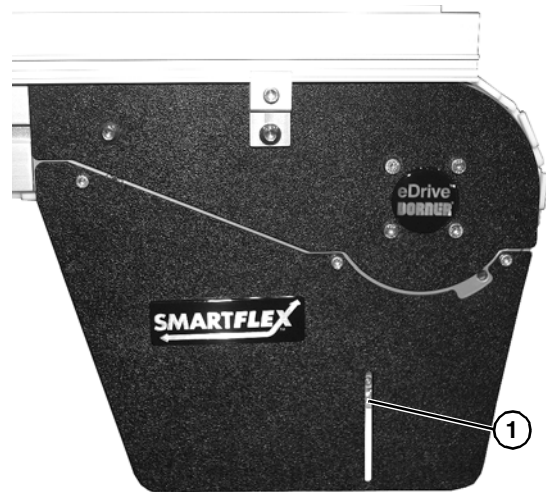

Figure 21
*Before inserting belt rod to connect belt ends, be certain that the slack on belt is showing in slotted area (Figure 21, item 1) on conveyor drive end.*